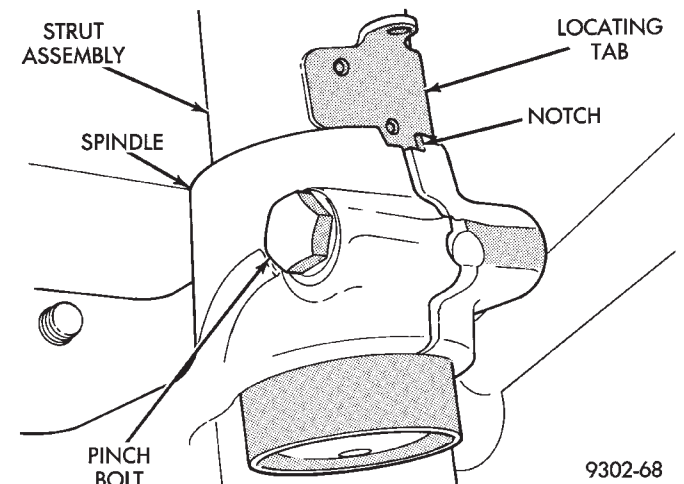

Fig. 15 Spindle Attachment To Strut
(2) Install spindle onto bottom of the strut assembly. Push and or tap spindle assembly onto strut, until notch in spindle is tightly seated against locating tap on strut assembly (Fig. 15). Then remove center punch from hole in spindle. Install spindle to strut assembly pinch bolt into spindle (Fig. 15). Torque spindle to strut assembly pinch bolt to 55 N·m (40 ft. lbs.).